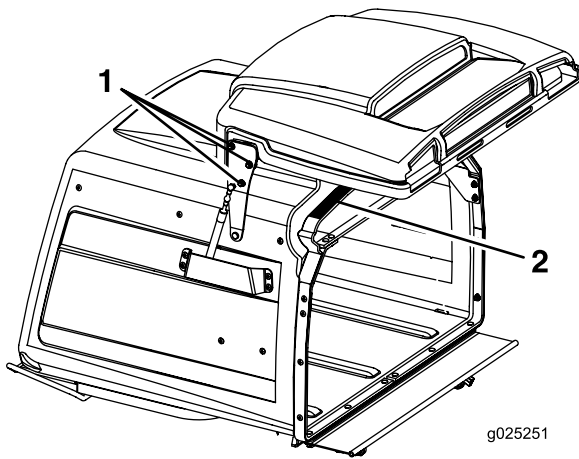

**Figure 59**
3. Locate the brake spring and thread the two jam nuts out to the end of the brake spring rod (Figure 59).